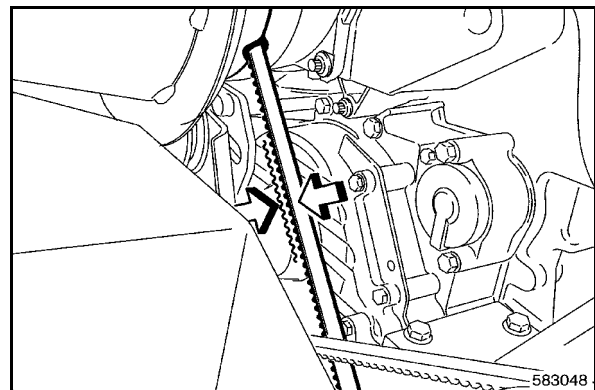

Fig. 152
- Check with thumb pressure whether the V-belt can be depressed more than 10 ... 15 mm between the V-belt pulleys, retighten the V-belt if necessary. (Fig. 152), if necessary retension the V-belt.